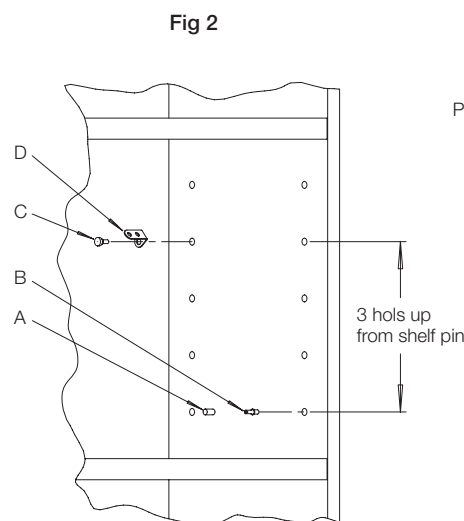

Fig 2
1.2. Insert the shelf support pin (A) using the appropriate front shelf pre-drilled hole on both gables. (Fig. 2)
1.3. Cover the exposed portion of the shelf support pins (A) with shelf support boot (B). (Fig. 2)
1.4. Assemble the shelf hinge (D) using shoulder fastener (C) 3 holes up and using the back set of pre-drilled holes from the previously assembled shelf support, also on both gables. (Fig. 2)